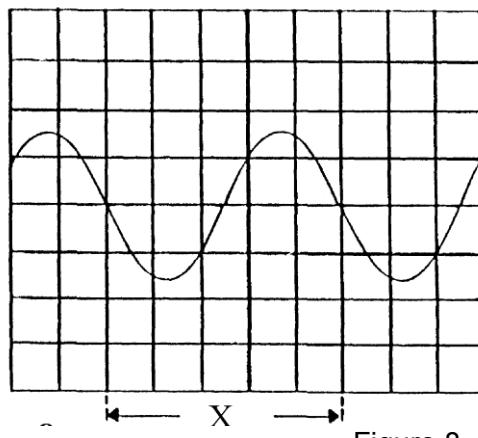

Figure 8
- Turn the horizontal position control until the beginning of the waveform is lined up with the first or second vertical graticule line and so that the waveform is centred within the CRT screen as shown in Fig. 8.